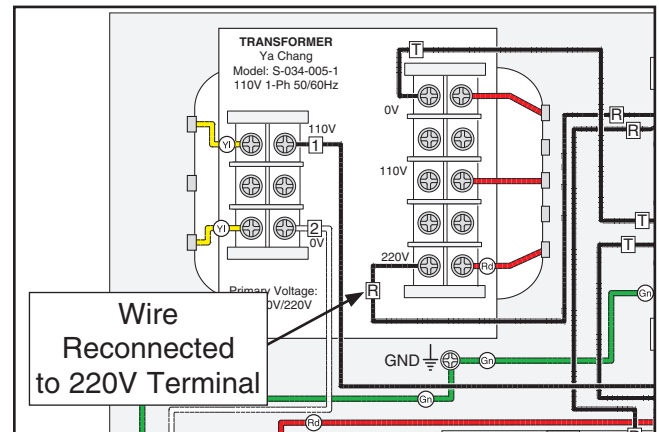

Figure 10. Power transformer wire relocated from 110V to 220V.
5. Open the electrical cabinet and remove the wire attached to the 110V terminal on the power transformer in the electrical panel (see **Figure 10**). Connect it to the 220V terminal.